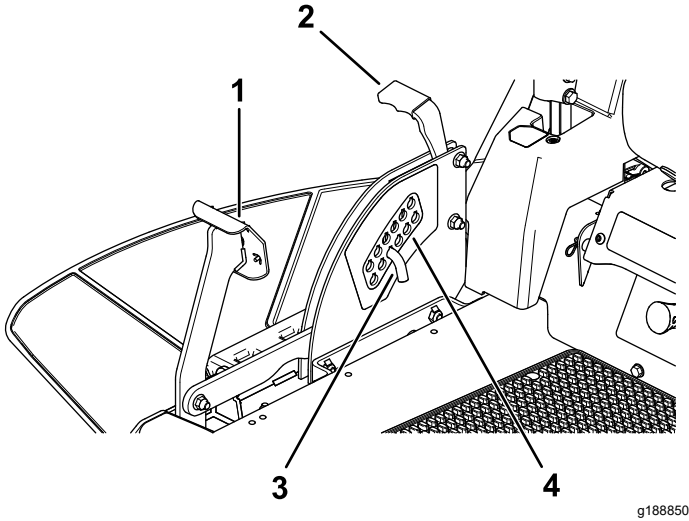

Figure 27
1. Push on the deck-lift pedal with your foot and raise the mower deck to the transport-lock position (also the 114 mm (4-1/2 inch) cutting height position) as shown in Figure 27.
2. To adjust, remove the pin from the height-of-cut bracket (Figure 27).
3. Select a hole in the height-of-cut system corresponding to the desired height of cut and insert the pin (Figure 27).